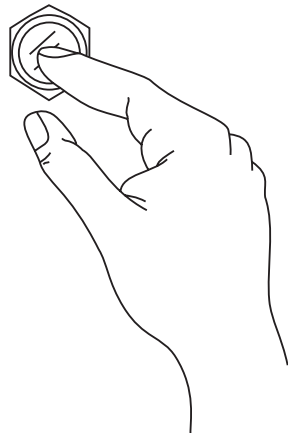

Figure 90. Hour Check Button
1. With the engine stopped (**OFF**), press and hold the **Hour Check button** (Figure 90) located on the control panel.